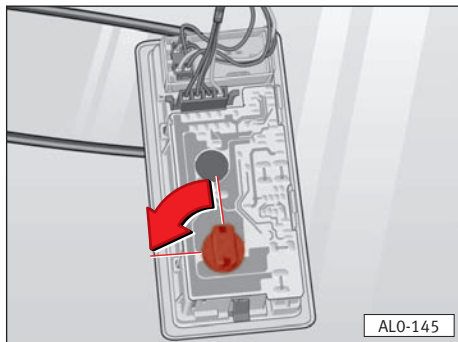

Fig. 191
- Turn bulb holder on back of light in direction of arrow and remove ⇒ **fig. 191**.